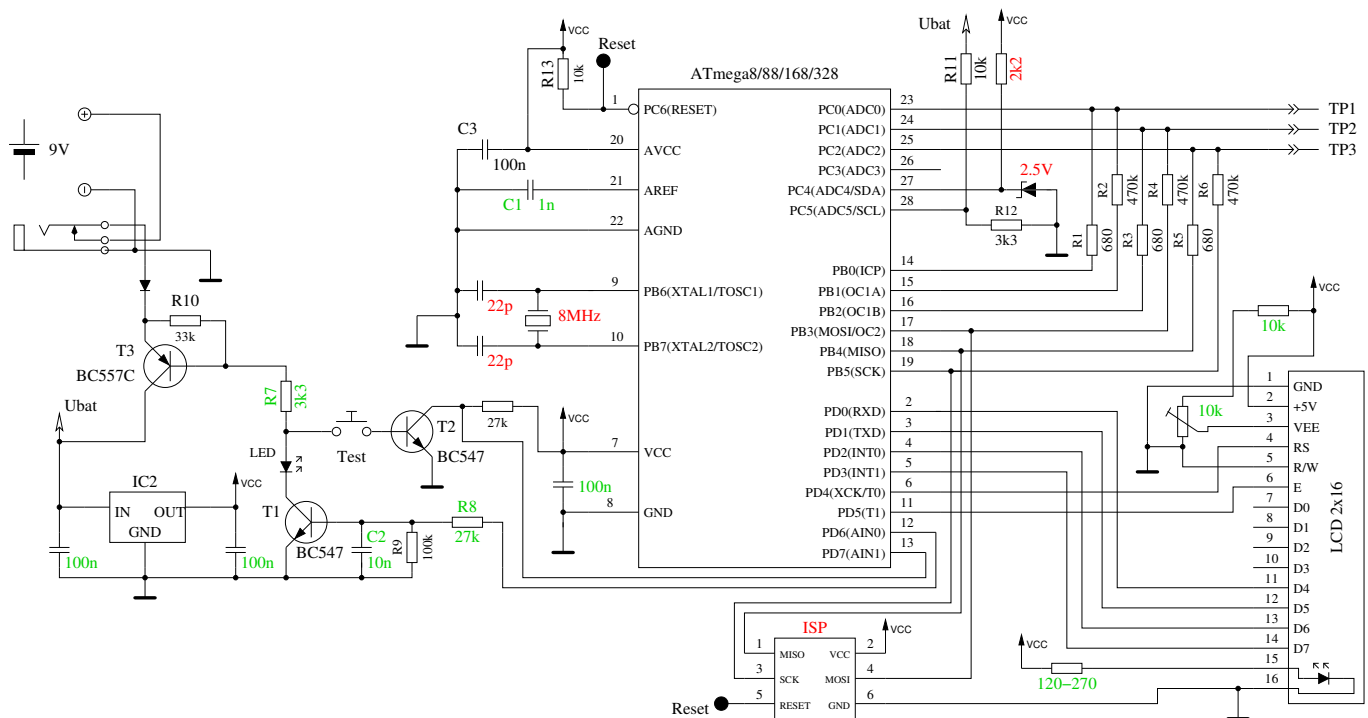

Figure 2.1: New circuit of TransistorTester
The circuit of the TransistorTester in figure 2.1 is based on the circuit of Markus F. released in Abb. 1 of AVR-Transistortester report [1]. Changed or moved parts are marked with green color, optional parts are marked with red color. Some changes are made because the electronical power switch make problems in some implementations. Therefore the resistor R7 is reduced to $3.3k\Omega$. The capacitor C2 is reduced to 10nF and R8 is moved so that the PD6 output does not try to switch a 100nF capacitor directly. Additional blocking capacitors are added and should be placed near the power connection of the Atmega and near the Voltage regulator. Because the PD7 input and PC6 (RESET) are the only pins, where pull up resistors where needed, one $27k\Omega$ resistor is added to the PD7 (pin 12) input. With this modification the software can disable all internal pull up resistors of the ATmega. The additional crystal with its 22pF capacitors are optional added. The accuracy of a crystal has the benefit of more stable time measurement for getting the capacitor values. New software version can use a scale switch of the ADC. The speed of switching is reduced by the external capacitor C1 at the AREF (21) pin of the ATmega. To avoid slowing down the measurement speedi more than necessary, the value of this capacitor should be reduced to 1nF. Removing of the capacitor C1 is also possible. For adapting the software to the actual circuit take a look to the Makefile options in the configuring chapter 3. Some different versions of R11 / R12 resistor combinations circulates in the internet. I have adapted my software to the original of Markus F. [1] with $10k\Omega$ and $3.3k\Omega$. The additional 2.5V precision voltage reference connected at pin PC4 (ADC4) is planned to use with future software versions and is currently not used. A optional ISP connector has been added to easier load new software versions to the tester.